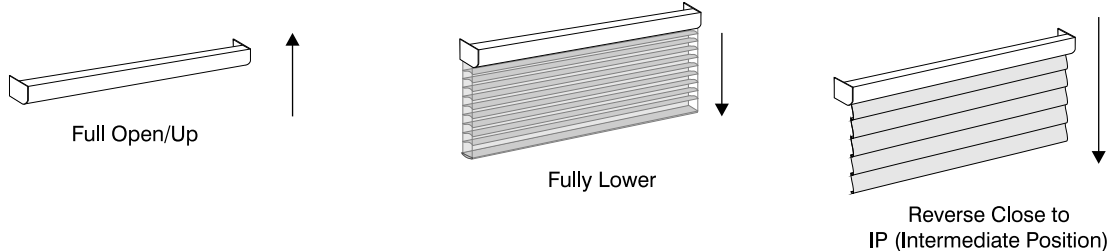

Figure 2.
- Programming will enable Sheer Horizontal Shades to FULLY RAISE and LOWER then REVERSE to a FULLY CLOSED POSITION (Fig. 2)